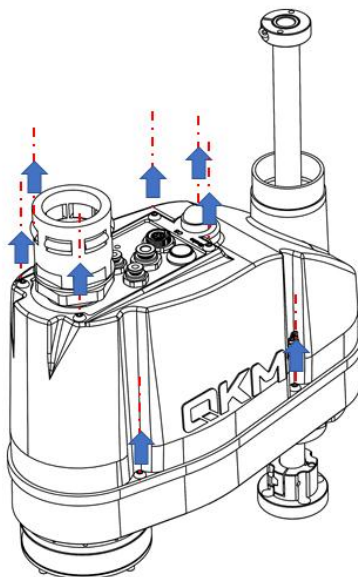

Figure 4-17 Removal of the second mechanical arm shell
**Step 2** Remove the screws and put them aside, and then gently pull the shell towards the bellows, as shown in. Figure 4-17.